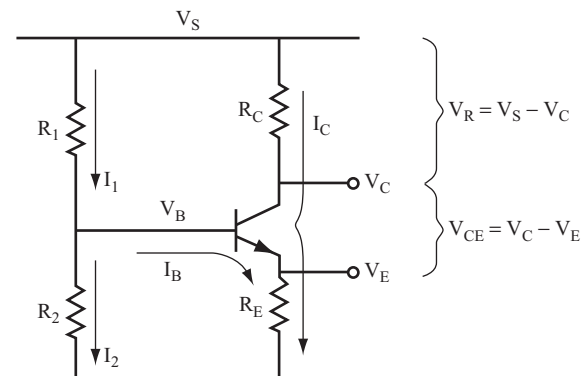

FIGURE 8.6
The labels in Figure 8.6 identify the DC currents and voltages present in the circuit. These parameters are used in the next several problems.
**12** Look at the gain first. The gain formula for the circuit shown in Figure 8.6 is as follows:
Use the circuit shown in Figure 8.6 with  $R_C = 10 \text{ k}\Omega$  and  $R_E = 1 \text{ k}\Omega$  to answer the following questions:
- A.** Calculate the voltage gain ( $A_V$ ) of the amplifier circuit shown in Figure 8.6 if  $R_C = 10\text{ k}\Omega$  and  $R_E = 1\text{ k}\Omega$ . Then, use  $A_V$  to calculate the output voltage if the input signal is  $2\text{ mV}_{pp}$ . \_\_\_\_\_
Although the amplifier circuit shown in Figure 8.6 produces stable values of voltage gain, it does not produce high values of voltage gain. For various reasons, this circuit is limited to voltage gains of 50 or less. Later, this chapter discusses an amplifier circuit that can produce higher values of voltage gain.
**14** Before you continue, look at the current relationships in the amplifier circuit shown in Figure 8.6 and an approximation that is often made. You can calculate the current flowing through the emitter resistor with the following equation:
6. Find  $I_2$  where  $I_2$  is  $10I_B$ . (Refer to the circuit shown in Figure 8.6.) This is a convenient rule of thumb that is a crucial step in providing stability to the DC bias point.